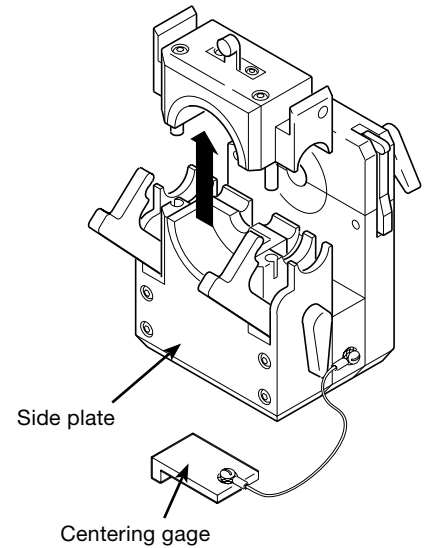

Figure 20 Removing the Top of the Side Plate
5. Unlatch and remove the top of the CWS-5FSP2 Side Plate. See Figure 20.